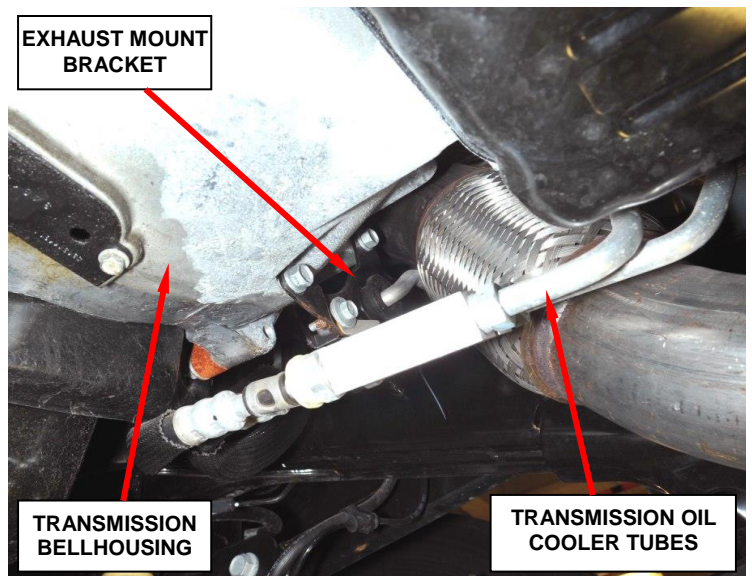

Figure 7 – Exhaust Mount Bracket
c. Disconnect the exhaust mount bracket at the transmission bellhousing (Figure 7).